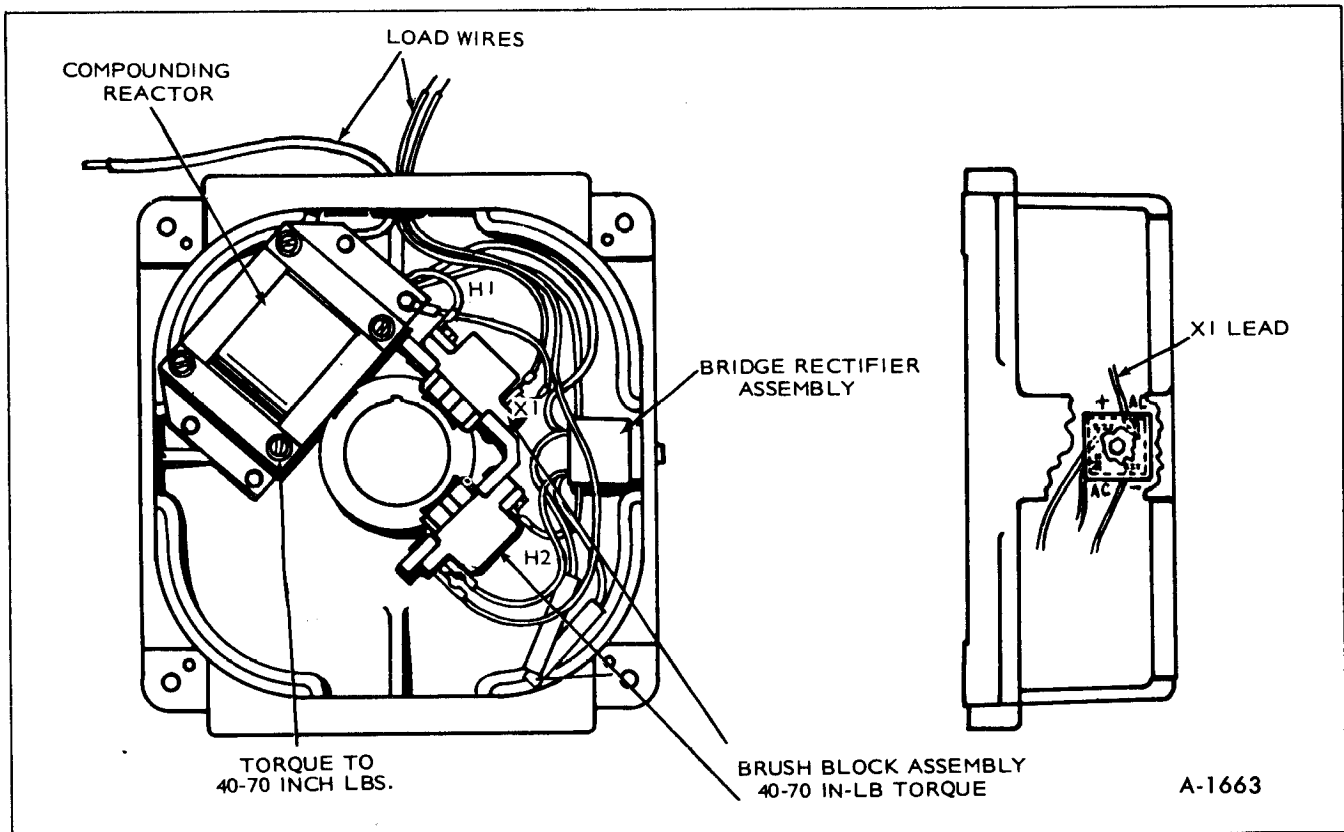

Figure 77-End Bell Assembly
1. Loosen No. 8-32 screw to remove bridge rectifier assembly (See figure 77 for location).